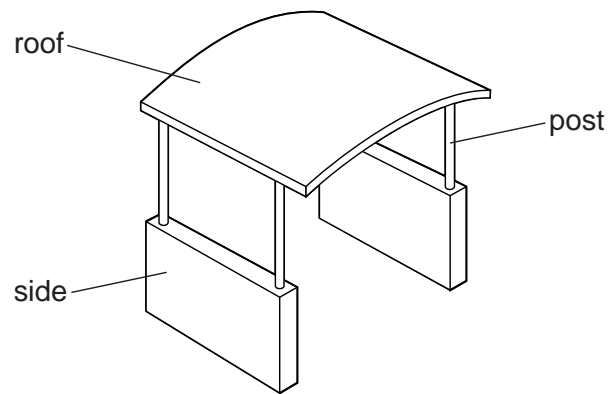

Fig. 3
- 2 Fig. 3 shows a model bus shelter. It could be made using wood, veneers or brass sheets.